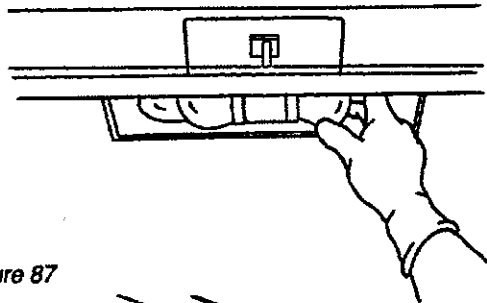

Figure 87
- Wear protective gloves to remove defective bulb(s) and replace with functioning bulb(s). See Figures 87 and 88.